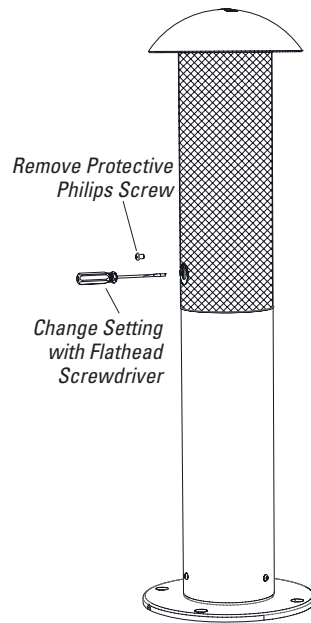

Figure 26
- The L42XC speaker ships with the transformer set to 60W and **must be re-set to BYPASS**. Use a Philips head screwdriver to remove the protective Philips screw as shown in Figure 26.